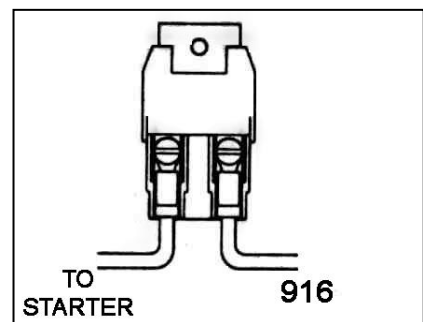

Figure 9-1 Maxi Fuse
9.0.1 With crimping tool, attach Maxi Fuse (**Figure 9-1**) onto end of ENGINE SECTION (single) 10 ga. wire #916 (red) AFTER having routed wire from the Fuse Panel to the Starter Solenoid. This serves as a fuse to protect the entire harness. DO NOT OMIT IT!
12.0.4 If you are using a GM starter, route the remainder of wire #916 from the Ammeter POSITIVE terminal to the Maxi Fuse terminal. Connect the other side of the Maxi Fuse (**Figure 9-1**) to the Starter Solenoid Battery (B+) terminal.